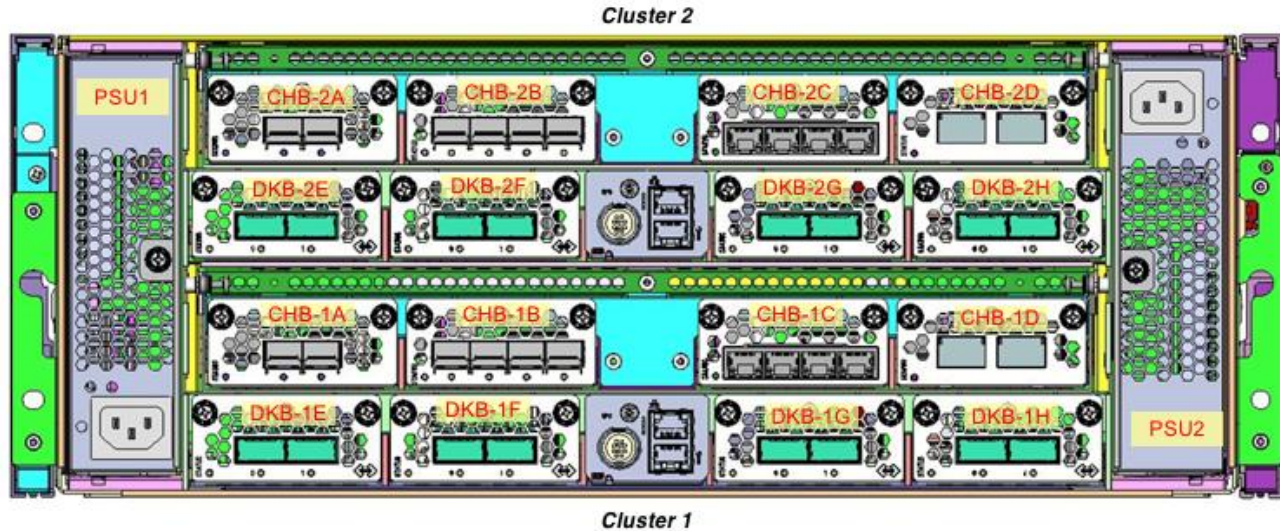

Figure 8: VSP G900 Controller Chassis (DKC) Organization
Figure 8 shows a G900 configuration with the high performance back-end comprised of 8 BE Modules. The slots for the FE Modules are labeled “A-D” where the A slots represent the default features and the B-D slots represent the optional features that can be installed. The FE Module port numbers are either “1, 3, 5, 7” for Cluster 1 (odd) or “2, 4, 6, 8” for Cluster 2 (even). The name of a given FE Module comes from the Cluster it is installed in and the slot within the Cluster. For example, the first FE Module (slot A) in Cluster 1 is FE-1A. Likewise, the name for an individual port is the combination of the port number and the FE Module slot. For example, the last port on FE-2D is Port 8D. For FE Modules with only 2 ports, the port numbers are either “1, 3” for Cluster 1 or “2, 4” for Cluster 2.
- Performance Back-end (see Figure 8) with 8 BE modules (each with 2 ports, 4 x 12 Gbps SAS links per port, 64 links total):